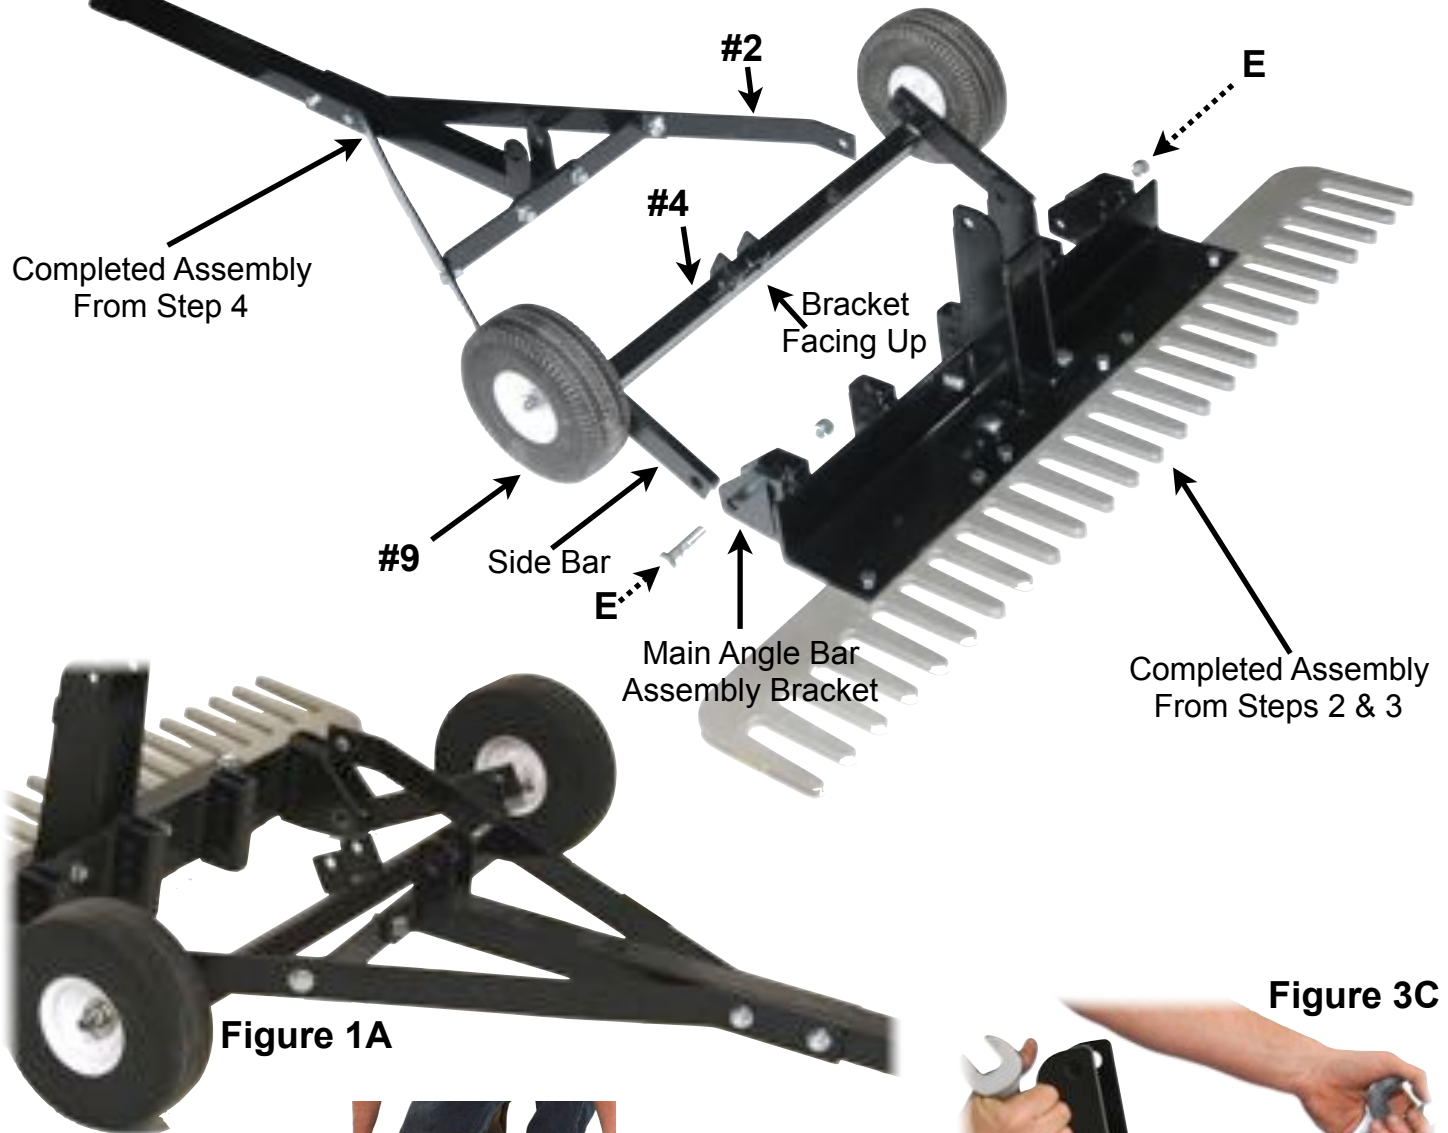

Figure 1A
**Attaching The Wheels:** Place component #4 on the ground in-between the completed assembly from step 4 and the completed assembly from steps 2 & 3 as shown below. Be sure the bracket welded to the tube-steel crossmember are facing up on component #4. Now take the assembly completed in step 4 and lay it on top of component #4. (as shown in figure 1A) Next align the open bolt holes in component #2 (which is a part of the completed assembly from step 4) and the open bolt holes in the side bars of component #4. The Component #2 arms must be inside the side bars of Component #4. Then slide them into the “Main Angle Bar Assembly” brackets (both sides) on the completed assembly from steps 2 & 3. (as shown in figure 2B) You will need to lift the completed assembly from step 4 such that the tongue is pointing up at about a 45 degree angle to align all the bolt holes. With all three bolt holes aligned insert bolt set “E” on each side. Securely tighten both nuts as shown in figure 3C.